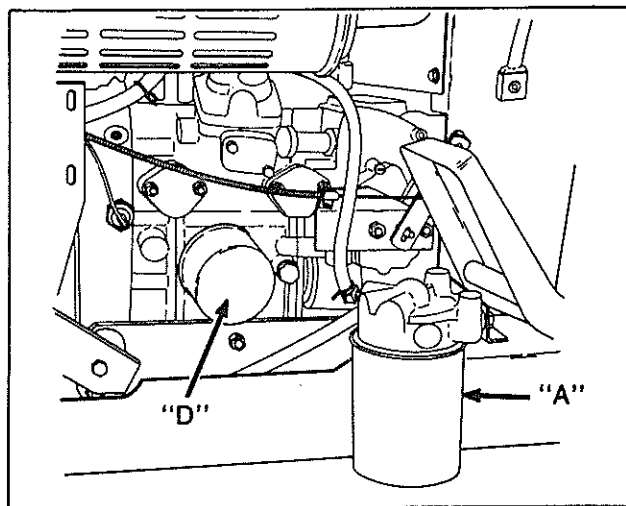

FIGURE 4-4
There is a fuel filter (A) Figure 4-4 in the line from the fuel tank. This filter is a throw away type. When replacing the filter turn off the fuel valve. This valve is located on the left hand side of the tractor under the foot pedal. Screw off filter and replace. Service after first 50 hrs. and every 200 hrs. thereafter. Open valve again after filter has been replaced.